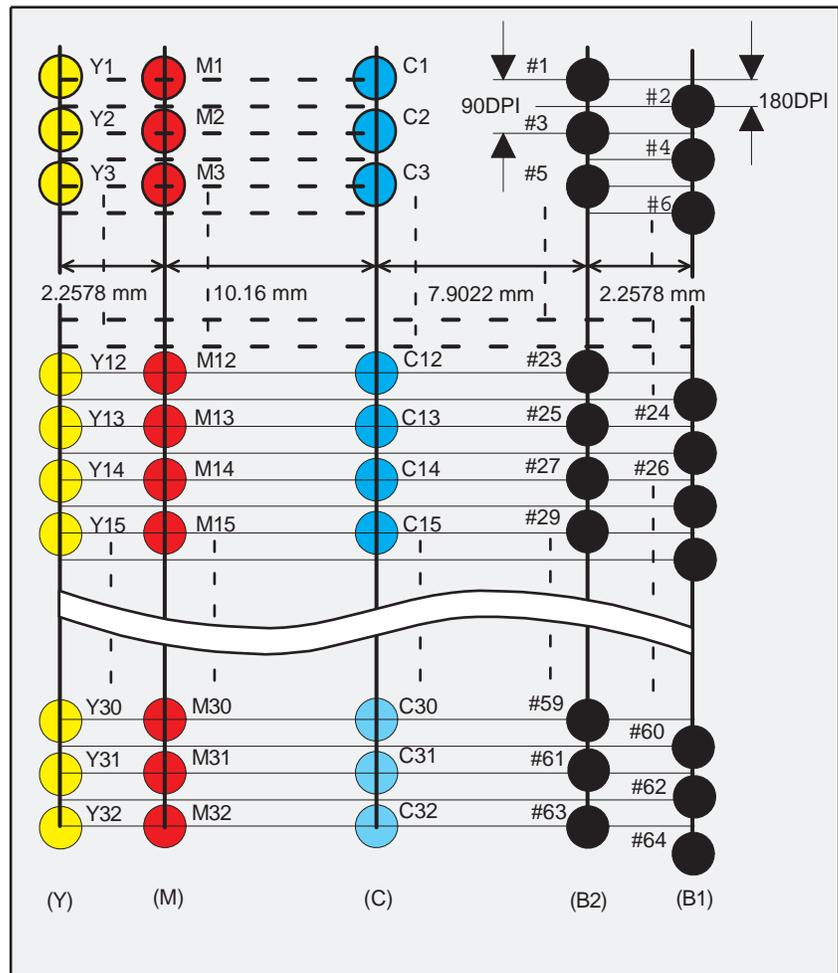

Figure 1-2. Nozzle Configuration for Stylus Color 640
- Refer to Figure 1-2 for Stylus Color 640.